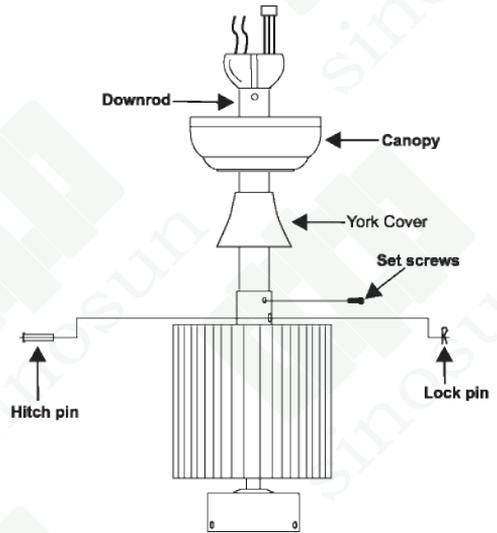

Fig.4
Step 4. Route wires exiting from the top of the fan motor through the canopy and then through the ball/downrod. (Fig.4)
Step 5. Align the holes at the bottom of the downrod with the holes in the collar on top of the motor housing. Carefully insert the hitch pin through the holes in the collar and downrod. Be careful not to jam the pin against the wiring inside the downrod. Insert the locking pin through the hole near the end of the hitch pin until it snaps into its locked position. (Fig.4)